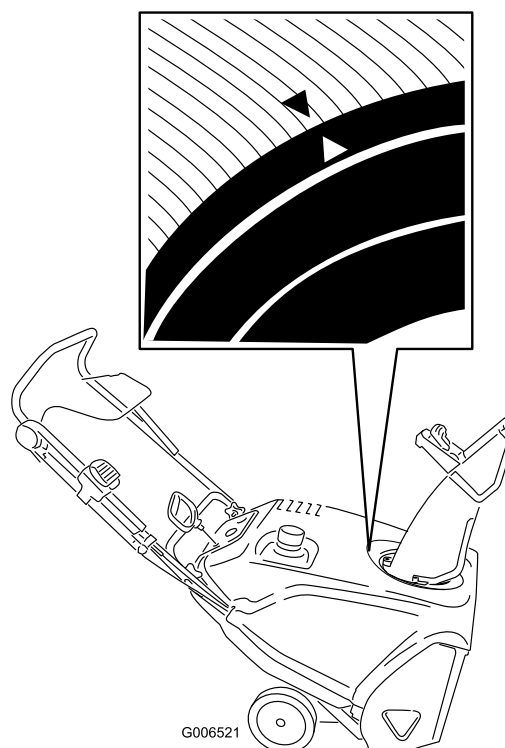

Figure 42
3. Rotate the discharge chute so that it faces straight ahead and the arrow on the back of the discharge chute aligns with the arrow on the shroud (Figure 42).